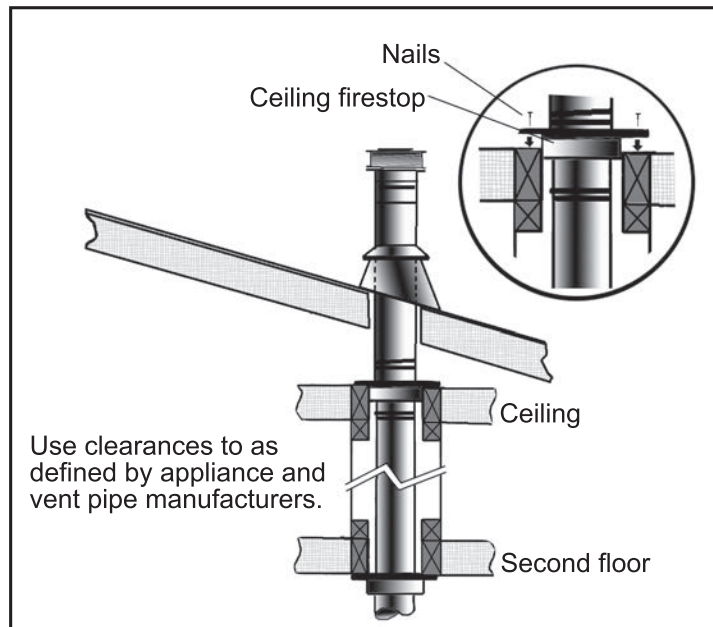

**Figure 61: Use of Wall Straps.**
**Table 8: Minimum 'H' for Figure 61.**
- (1) If an offset is necessary in the attic to avoid obstructions, it is important to support the vent pipe every 3 feet (914 mm), to avoid excessive stress on the elbows, and possible separation. Wall straps are available for this purpose (see Figure 61).
- (2) When ever possible, use 45° degree elbows instead of 90° degree elbows. The 45° degree elbow offers less restriction to the flow of flue gases and intake air.